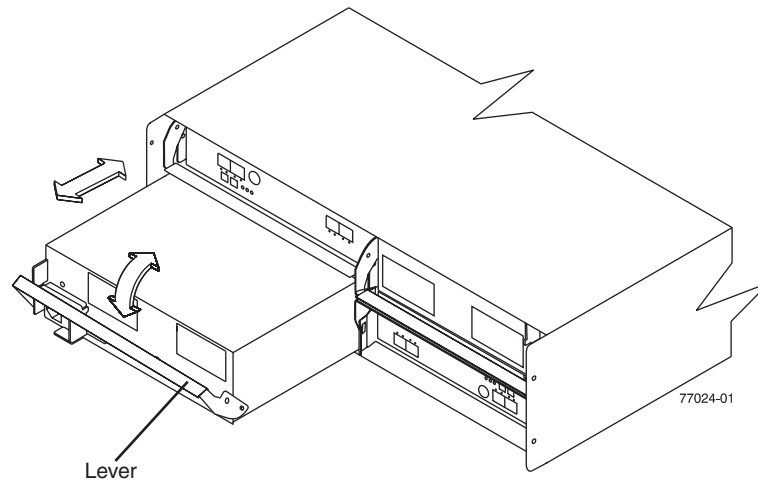

Figure 14. Replacing a power supply-fan
2. Slowly pull the lever away from the chassis to remove the power supply-fan, as shown in Figure 14 on page 29.